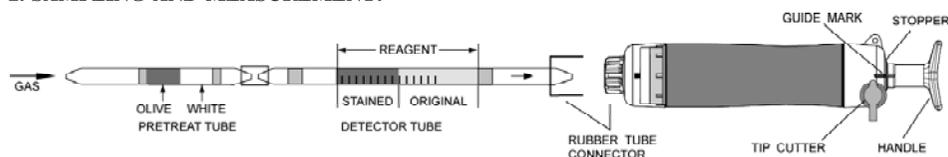

Fig.1
- ① Break both ends of the detector tube and pre-treat tube, and connect each end of the detector tube and pre-treat tube with rubber tube connector as shown in Fig.1.
- ② Insert the detector tube into aspirating pump securely as shown in Fig.1 (Arrow mark shall point to the pump.)
- ③ Align the guide marks on the shaft and stopper of the aspirating pump.
- ④ Pull pump handle at full stroke locked position and wait for 1.5 minutes or until the confirmation of sampling is confirmed with the flow indicator of the pump (See descriptions about the flow indicator in the instructions of the pump).
- ⑤ On completion of sampling, read the scale at the maximum point of the stained layer.